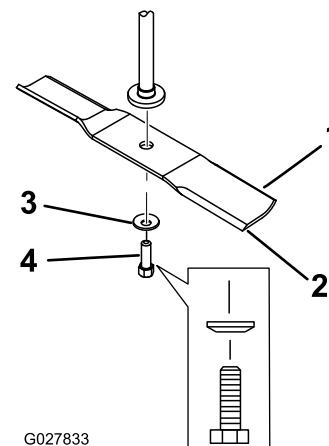

Figure 50
2. Remove the blade bolt, the curved washer, and the blade from the spindle shaft (Figure 50).
1. Install the blade onto the spindle shaft (Figure 50).
2. Install the the curved washer (cupped side toward the blade) and the blade bolt (Figure 50).